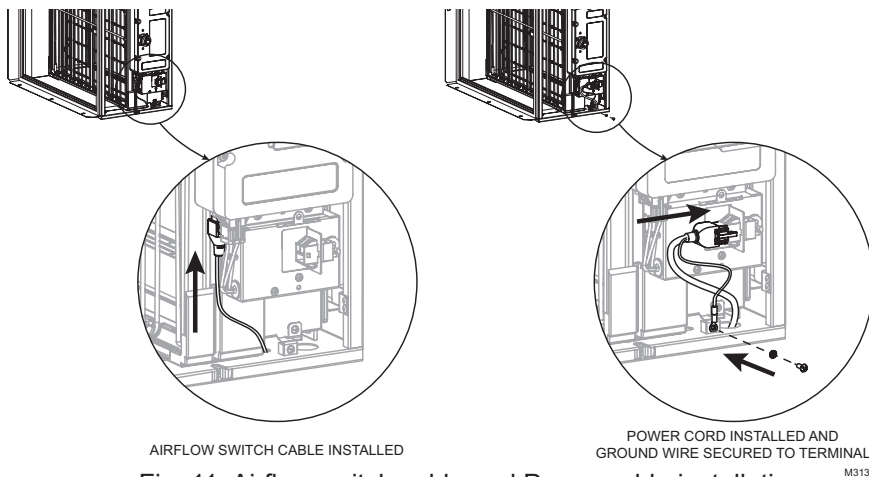

Fig. 11. Airflow switch cable and Power cable installation.
- Plug the power cord and the airflow switch cord into their power supply connectors (see Fig. 11).
- Secure the power cord ground wire to the ground terminal on the cabinet using the screw provided in the ground terminal (see Fig 11).
4. **Models FH8000A:** Unplug the power cord and flow sensor cable (if connected) from the enhancement module (see Fig. 11 on page 15).
10. **Models FH8000A:** Reconnect the power cord and flow sensor cable (see Fig. 11 on page 15).